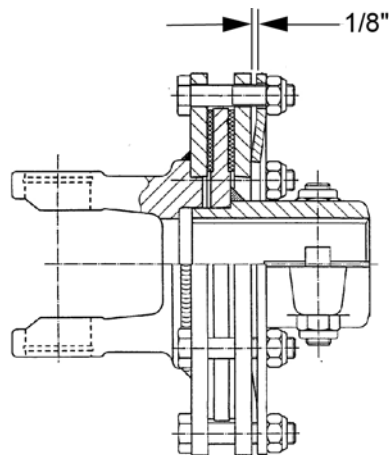

Figure 14. Slip Clutch Assembly
3. Mark outer plates of slip-disc clutch as shown in Figure 14.
3. Loosen six 10 mm cap screws (6) to remove all tension from Belleville spring plate (5).
4. Hold clutch hub (3) solid and turn shaft to make sure clutch slips.
5. If clutch does not slip freely, disassemble and clean the thrust plate faces (4), flange yoke (1), and clutch hub (3).
6. Reassemble clutch. Tighten Belleville spring (5) until it is against the thrust plate (4) of the clutch, and then back off each of the six nuts by two full revolutions. The gap between Belleville spring and thrust plate should be 1/8" as shown in Figure 14.
7. If a clutch continues to slip when the spring is compressed to 1/8", check friction discs (2) for excessive wear. Discs are 1/8" when new. Replace discs after 1/16" wear. Minimum disc thickness is 1/16".